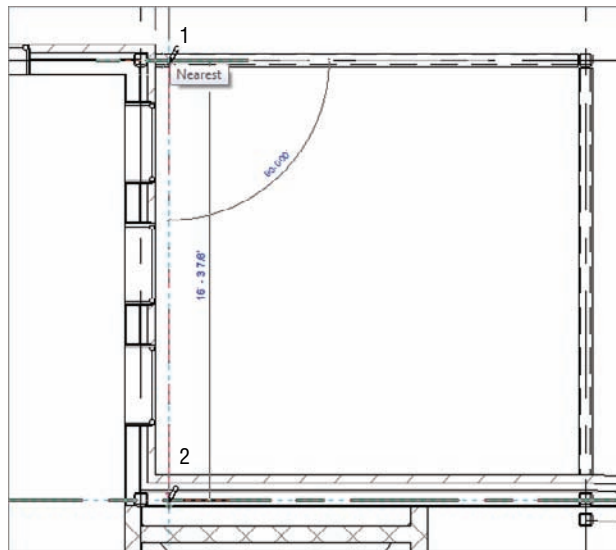

FIGURE 8.37 Adding a beam 6" (150mm) off the face of the wall to column line 2
11. Draw a beam 6" (150mm) off the finish face of the wall, starting at the top beam and ending on column line 2, as shown in Figure 8.37. (This will later be supported by the framing within the building).